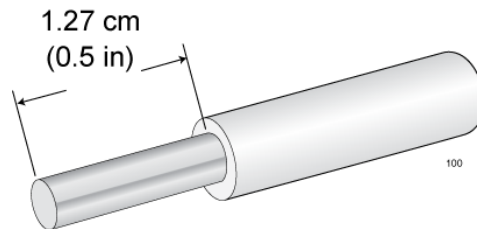

Figure 55. Stripping the Grounding Wire
1. Prepare an adequate length of stranded grounding wire (10 AWG) for the ground connection by stripping it as shown in Figure 55.